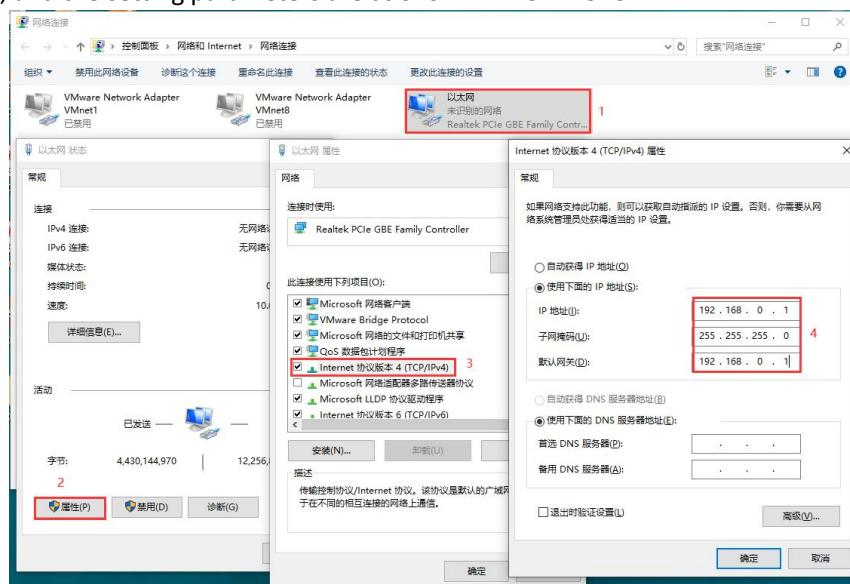

Figure 5-3 IP Parameter setting interface
(1) Set the local IP of the computer AA as the static IP. The setting parameters are as shown in Figure 5-3, and the setting parameters are as shown in Box 4. Shown